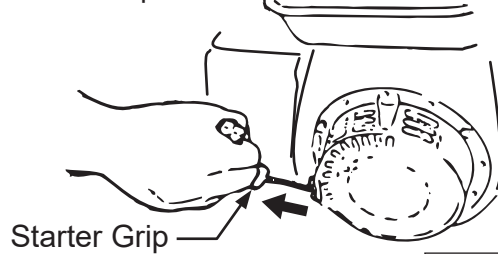

Fig.16
- 5 Grip the starting knob of the recoil starter. When you pull the rope a little, you will feel some resistance. Then pull it at a stroke. Be careful not to pull the rope too strongly, or the rope may break or come off. (Fig.16)